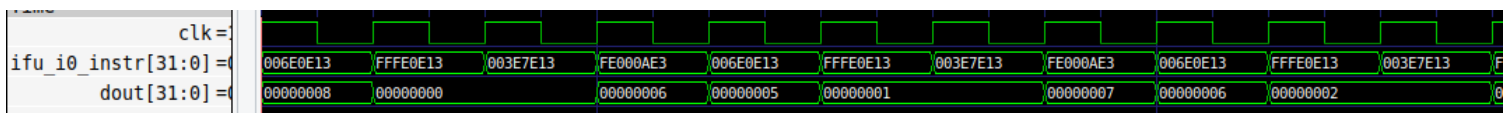

Figure 74. Execution of the three Arithmetic-Logic instructions from the example
7. Move to any iteration of the loop and analyse the execution of two random iterations that show the behaviour described in Figure 73. See Figure 74.